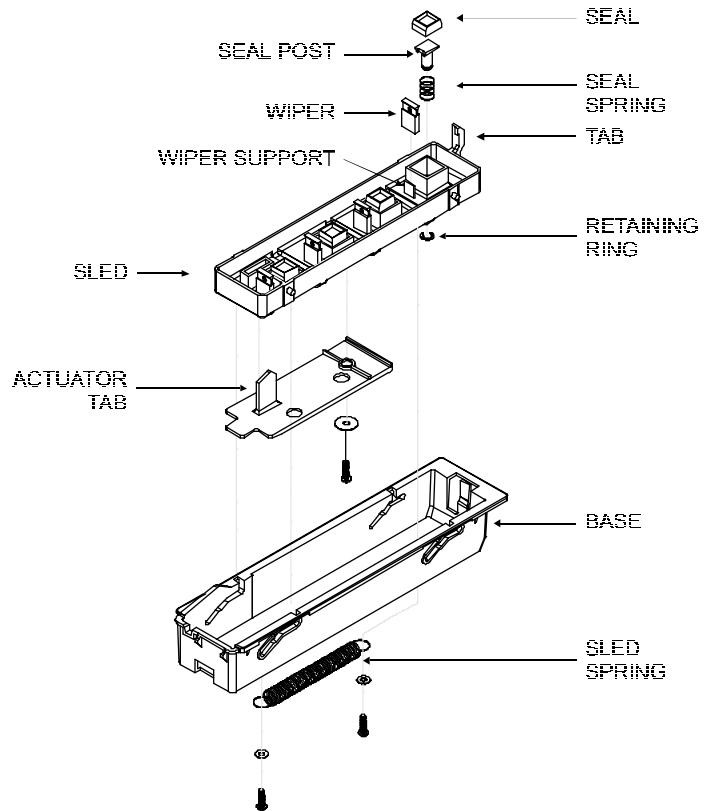

Figure 5-20. Service Station, Exploded View.
3. Reach into the Right Cover and pull back on the Service Station release tab located on the far side of the Service Station. See Figure 5-20.
- a. Disconnect the Sled spring from the post on the bottom of the Service Station Sled. See Figure 5-20.